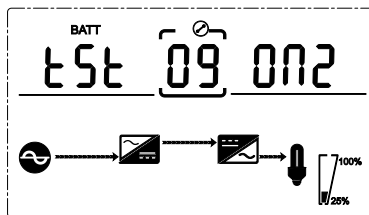

Fig. 4-23 Autotest ON2
- When choosing **ON2**, UPS can transfer to Battery Mode automatically per 30 days. And the Battery Self-test time is **10 minutes** (Fig. 4-23).